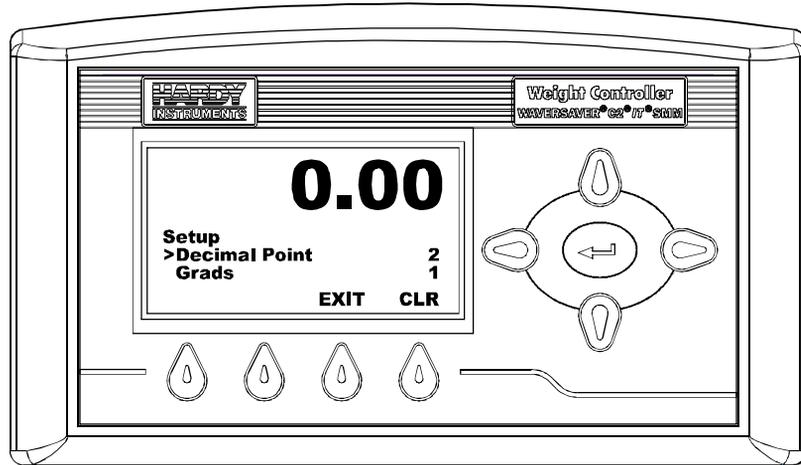

FIG. 69 SETUP MENU/SELECTING DECIMAL POINT POSITION
- Step 1. Press the Down Arrow button until the cursor is in front of Decimal Point. (See Fig. 69) The current number of digits to the right of the decimal point is displayed.